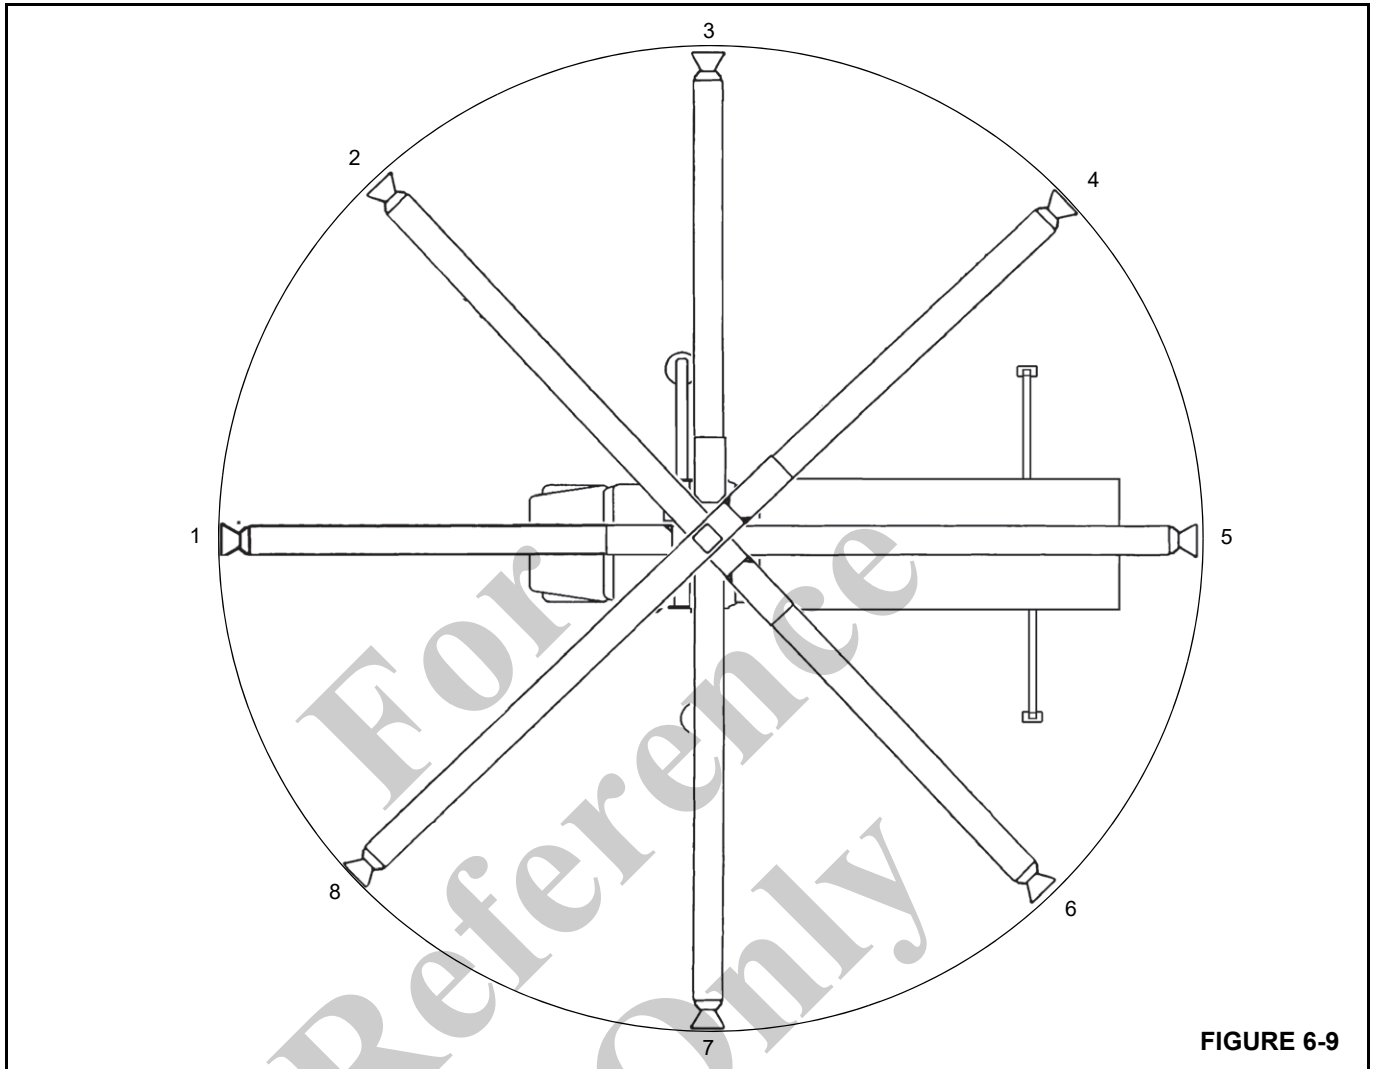

FIGURE 6-9
10. If the average is less than 2.3 mm (0.090 in), repeat the measurement at every 45° around the total working area of the crane (Figure 6-9).